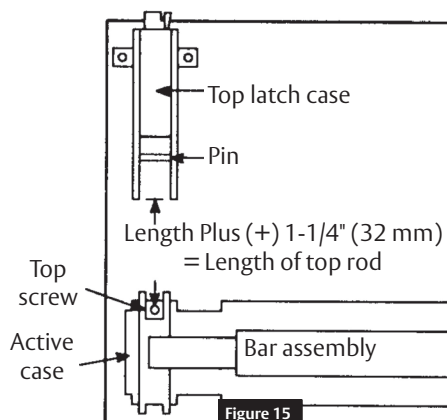

Figure 15
1. Measure the distance from the bottom of the top latch case to the centerline of the top screw in device active case. (Figure 15)